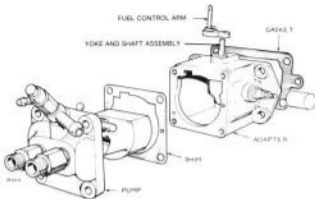

FIGURE 3-50. PUMP AND ADAPTER ASSEMBLY
- Using proper shim thickness (Figure 3-50), install pump to adapter with four socket head capscrews and lockwashers. Torque to 20 to 24 ft.-lbs 27-33 N•m).
- Reinstall fuel control arm on yoke and shaft assembly, Figure 3-50. Tighten socket head screw, but do not over tighten.